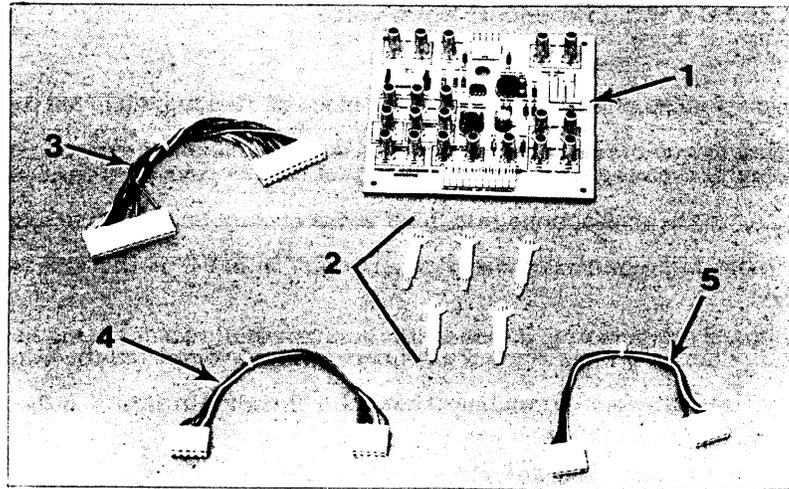

Figure 1. Accessory Kit Parts
4. Unplug the amplifier's 13-pin jumper plug located next to the heat sink. Save it for future use (you will need it if you remove the kit). Replace the 13-pin jumper with one end of the amplifier interconnect cable (*figure 1-ref. 3*). Plug the other end into P2 of the accessory board.
5. Plug the auxiliary interconnect cable (*figure 1-ref. 4*) into the amplifier's aux input and P1 of the accessory board.
The microphone interconnect cable (*figure 1-ref.5*) must always be installed.
- c. Plug the microphone interconnect cable (*figure 1-ref.5*) into P4 of the accessory board and the amplifier's microphone input.